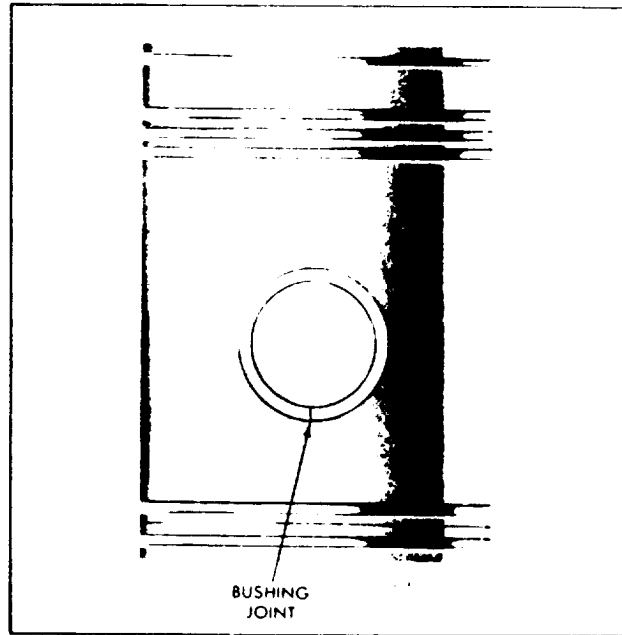

Fig. 6 Location of Joint in Piston Pin Bushings
**NOTE:** Locate the joint in the bushing toward the bottom of the piston (Fig. 6).